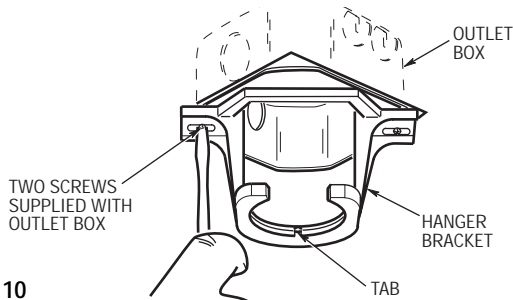
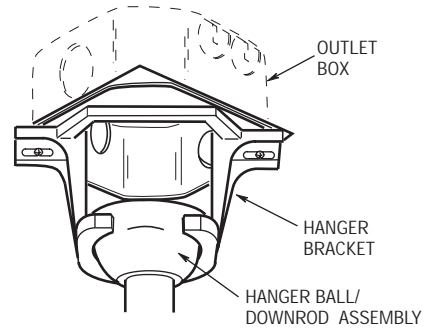

Figure 10
Figure 11
1. Securely attach the hanger bracket to the outlet box using the two screws supplied with the outlet box. (Figure 10.)
2. Carefully lift the fan and seat the hanger ball/downrod assembly on the hanger bracket that was just attached to the outlet box (Figure 11). Be sure the groove in the ball is lined up with tab on the hanger bracket (Figure 10).